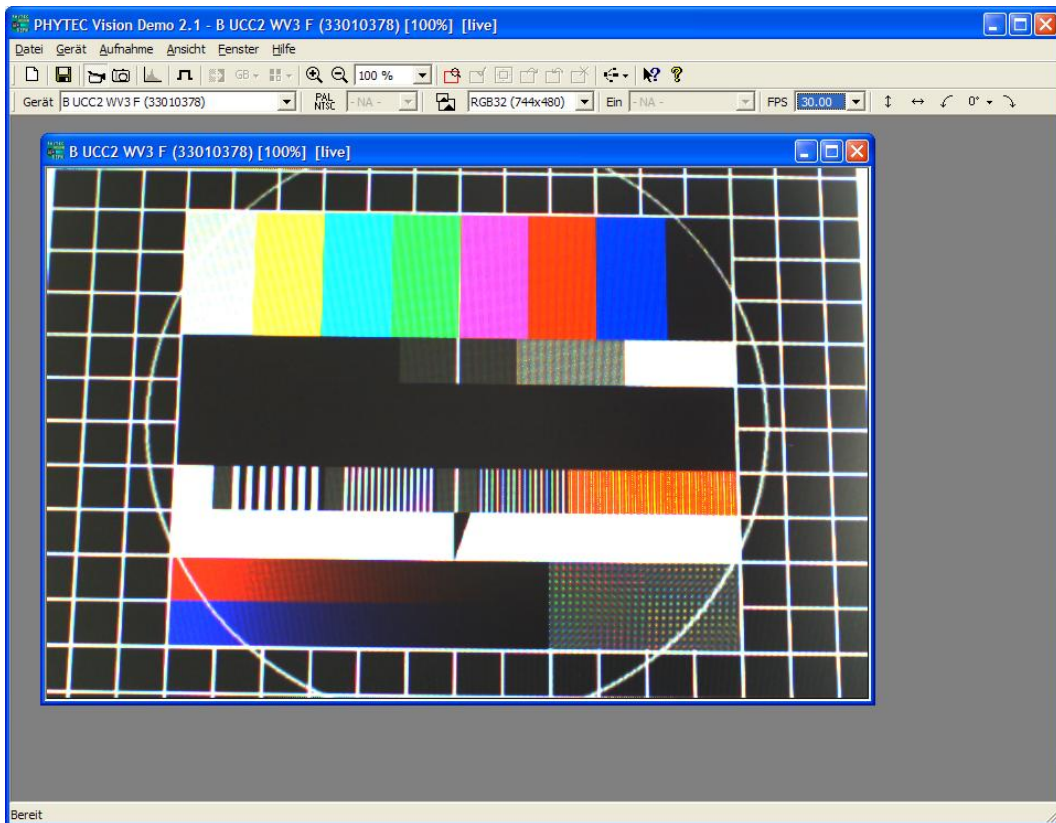

Figure 22: PHYTEC Vision Demo – Live View Function Activated
- A live image will appear in the program window (*Figure 22*).